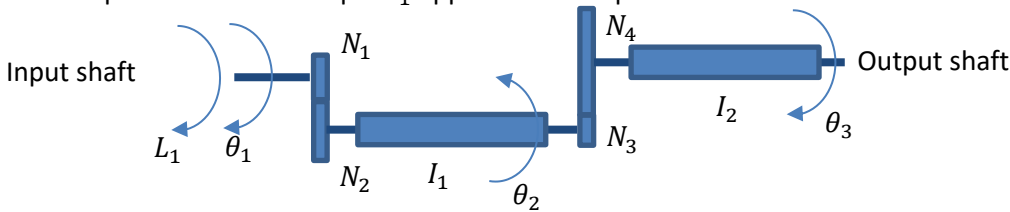

Figure 2
4. Figure 2 shows three rigid shafts that are geared together by gears having  $N_1, N_2, N_3, N_4$  teeth as shown. Two of the shafts carry rotors having moments of inertia  $I_1$  and  $I_2$  as shown. Inertia of the gear wheels is negligible. Derive an expression for the transfer function that relates the rotation  $\theta_3$  of the output shaft to the torque  $L_1$  applied to the input shaft.